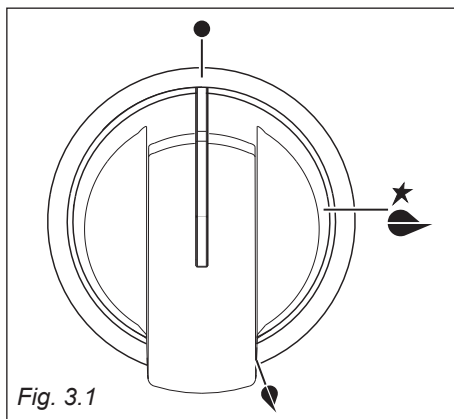

Fig. 3.1
Gas flow to the burners is adjusted by turning the knobs (illustrated in fig. 3.1) which control the safety valves.
- 1. Press in the corresponding knob and turn counter-clockwise (fig. 3.2) to the full flame position marked by the  symbol (fig. 3.1); hold the knob in until the flame has been lit.